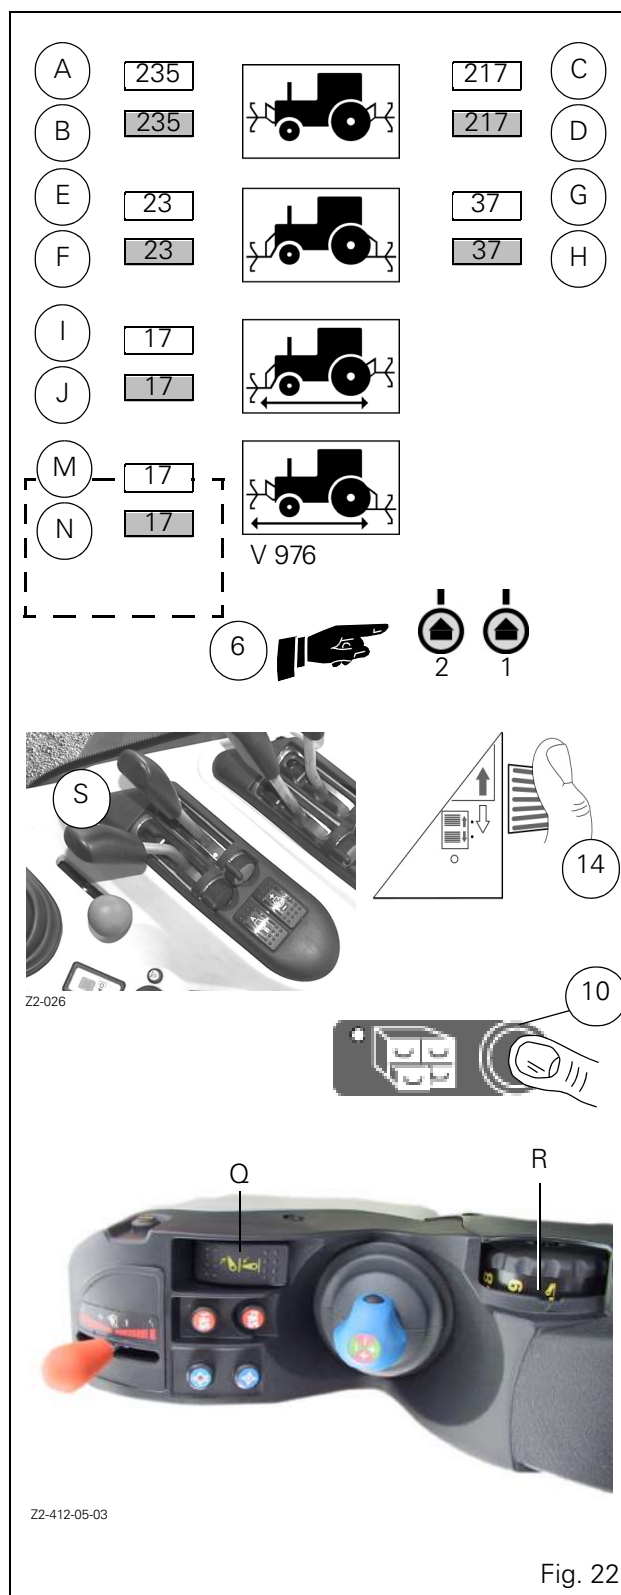

Fig. 22
(Fig. 22: Example of a front and rear plough).
7.6.3 - Settings (Fig. 22)